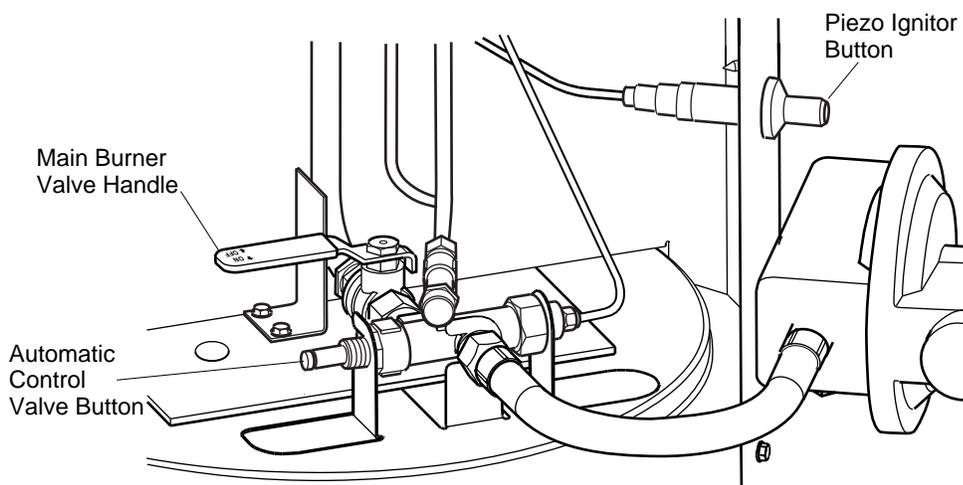

Figure 3 - Main Burner Valve Handle, Automatic Control Valve Button, and Piezo Ignitor Button Locations, With Regulator Installed
4. Push in and hold automatic control valve button (see Figure 3). Push piezo ignitor button (see Figure 3). You may need to push the piezo ignitor button 3-8 times until the pilot lights. *Note:* Hose may be filled with air. If so, keep automatic control valve button pressed and wait 20 seconds for gas to clear before pressing ignitor button again. When pilot lights, keep automatic control valve button pushed in. Release button after 30 seconds.